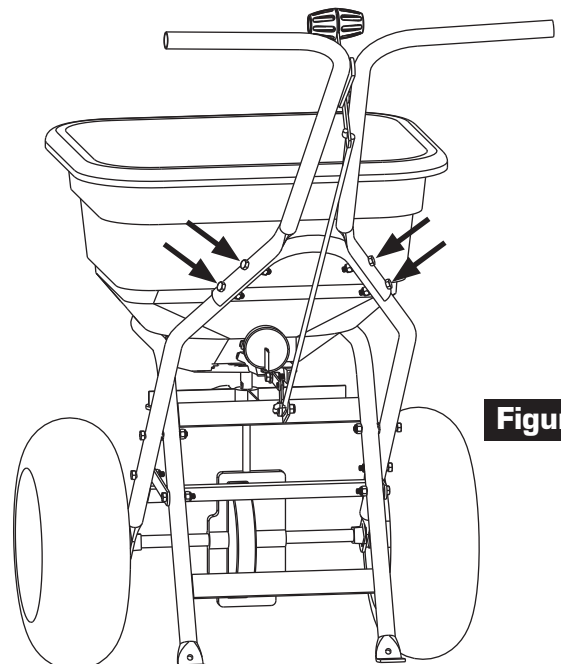

Figure 3
3. Attach Handle Assembly to Frame using (4) 1/4 x 1-1/2" long Bolts and 1/4" Nylon Insert Locknuts, Figure 3.